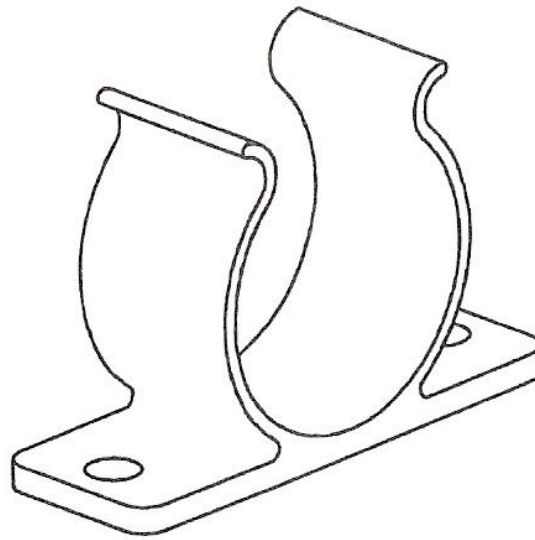

Figure 5 - Pipe Clip
- Figure 5 is a 'pictorial' view of a pipe clip made from plastic for clipping a pipe to a wall.